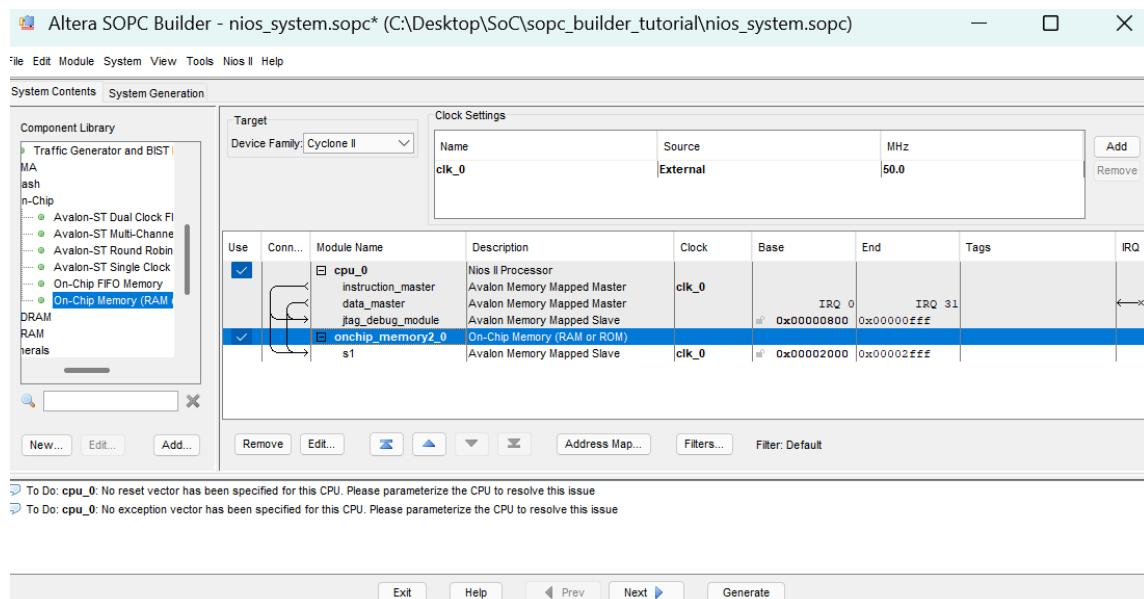

Figure 8. The on-chip memory included on a DE-series board.
- Click Finish to return to the System Contents tab as shown in Figure 8.